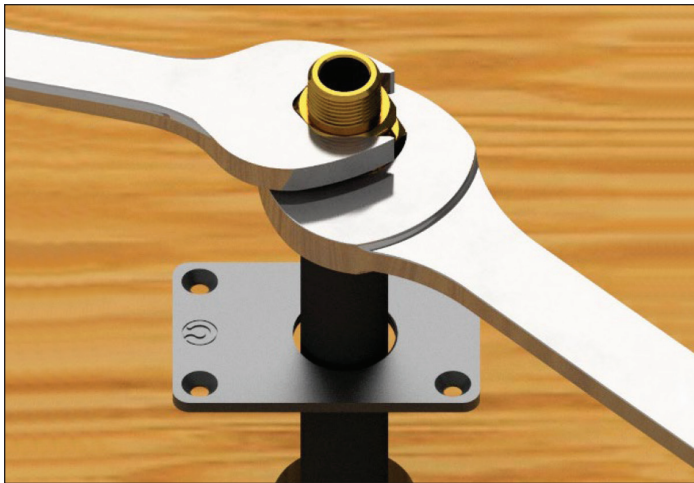

Figure: 1-6
9. Thread the Nut onto the Body to engage the threads. Using appropriate wrenches, tighten the fitting to the torque values listed in Table 3. Note that **TracPipe** System fitting is designed to form a leak tight seal on the stainless-steel tubing as the fitting is tightened (Figure 1-6). When fully tightened, there should be no threads visible between the Nut and Body.